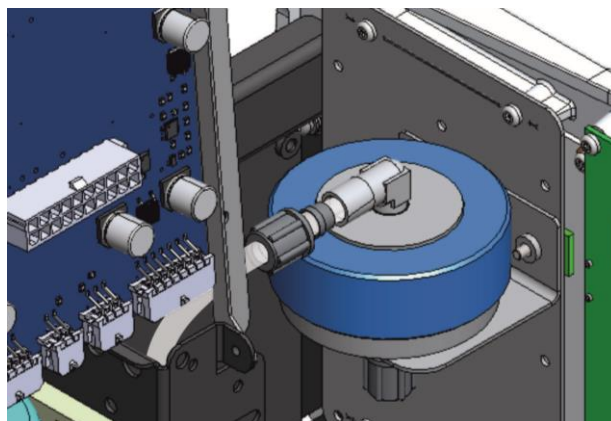

Figure 132 – Reconnect the Compression Nut and Tubing
10. Refer to Figure 132. Reconnect the compression nut and tubing to the elbow fitting.